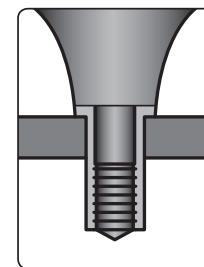

Fig. 5
- 5) Insert the rivet nut into the installation hole (fig. 5).**